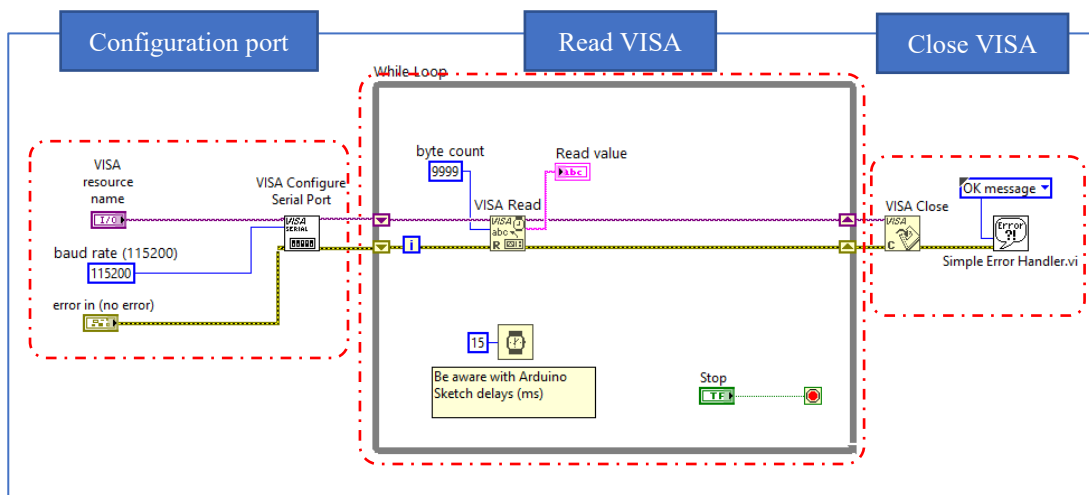

Figure 4. Block diagram view
4.- On the Block Diagram: (Figure 4)